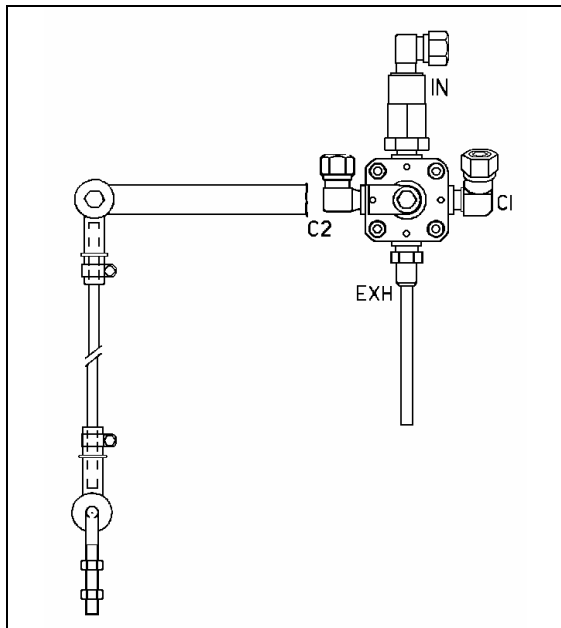

FIGURE 24: FRONT HEIGHT CONTROL VALVE 16093
2. Loosen the clamp on the rubber coupling and bring it up or down (Fig. 24).